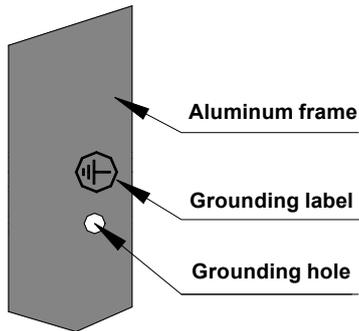

Figure 5 Grounding hole and ground label
7.5.1 Modules use anodized aluminum alloy frame as a rigid support, in order to avoid modules by lightning and electrostatic damage, as well as the protection of personal safety, all module frames and mounting racks must be grounded. If there is no special provision, please follow the International Electrotechnical Commission standards or other international standards. Use the recommended connection terminals to connect the grounding cable to the module frame. Use 12 AWG copper wire for the grounding wire. As shown in Figure 5 on the module ground